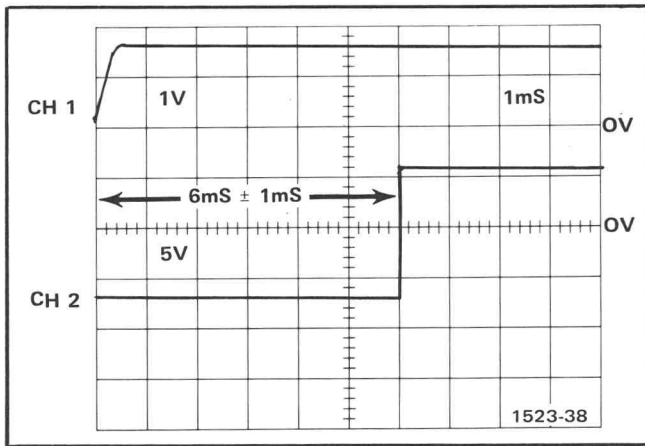

Fig. 5-7. QRS Timing.
- b. CHECK—Interval between first positive-going edge at TP382 and rising edge of pulse at TP388 is 6 ms,  $\pm 1$  ms (see Fig. 5-7).